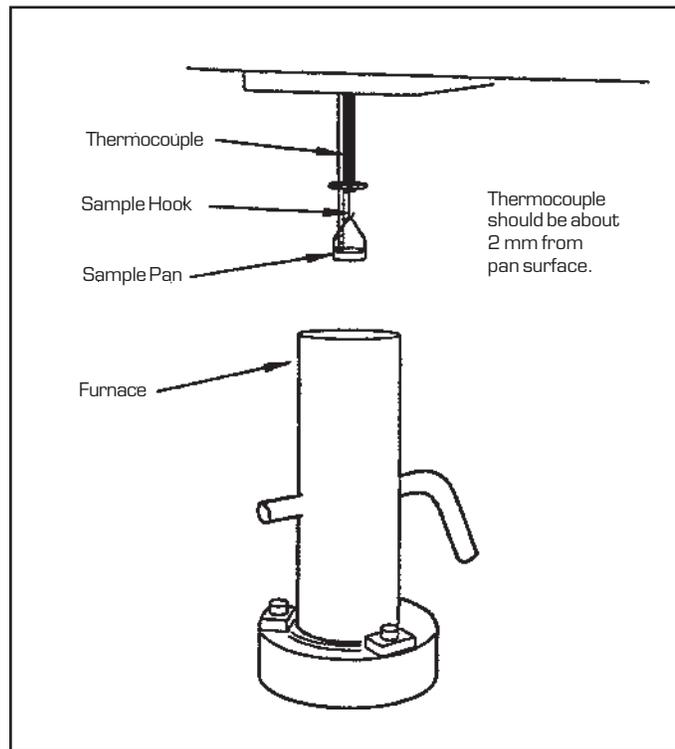

Figure 3.2
3. Position the thermocouple at the edge of the sample pan, rather than in the middle, for best results (Figure 3.2).